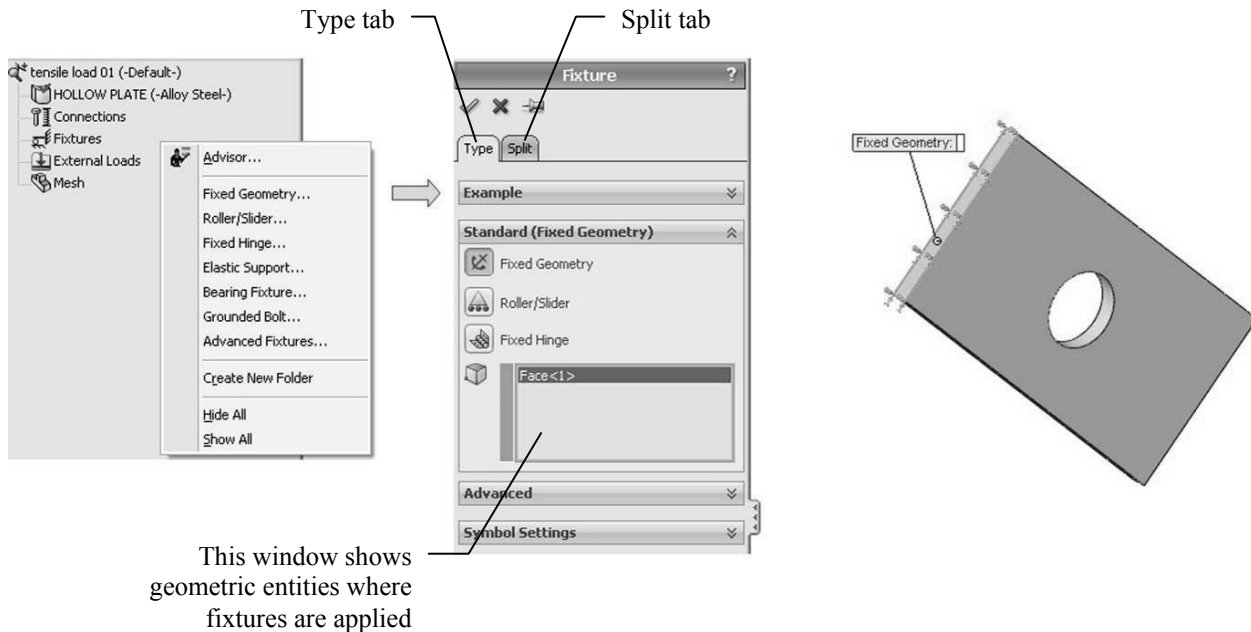

Figure 2-9: Pop-up menu for the Fixtures folder and Fixture definition window
Having assigned the material, we now move to defining the loads and restraints. To display the pop-up menu that lists the options available for defining restraints, right-click the *Fixtures* folder in the *tensile load 01* study (Figure 2-9).
- ❑ Right-clicking the *Fixtures* folder and selecting **Hide All** or **Show All** in the pop-up menu shown in Figure 2-9 , or